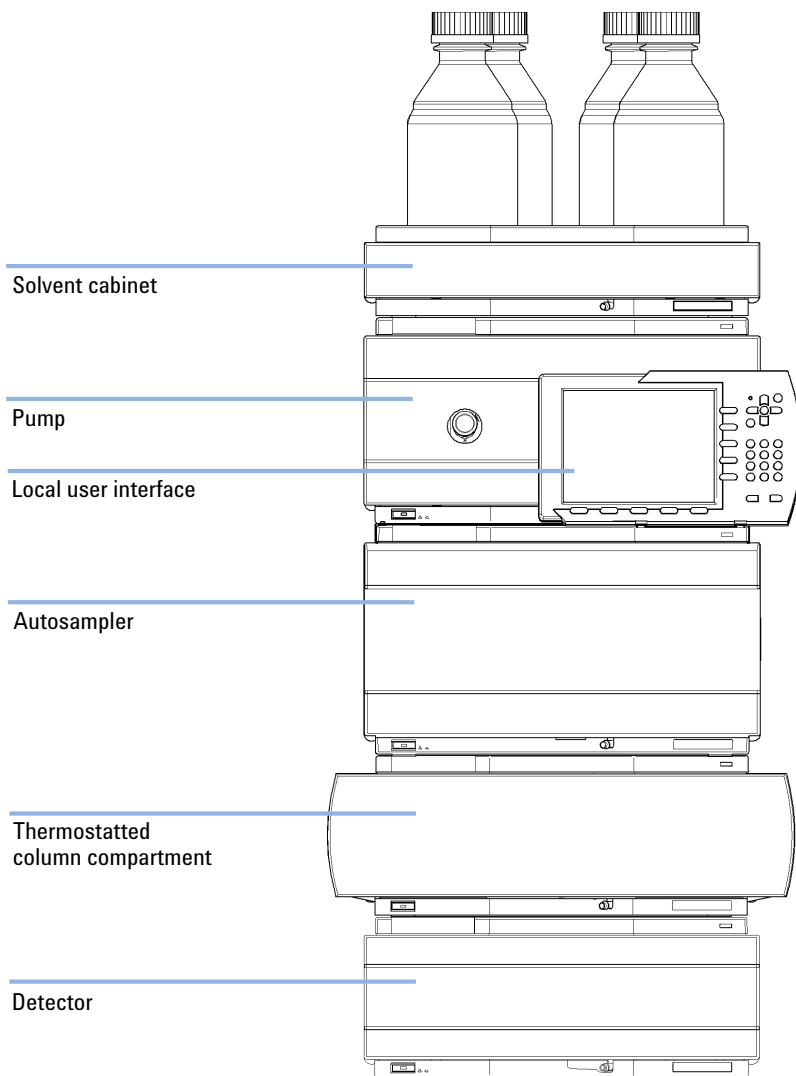
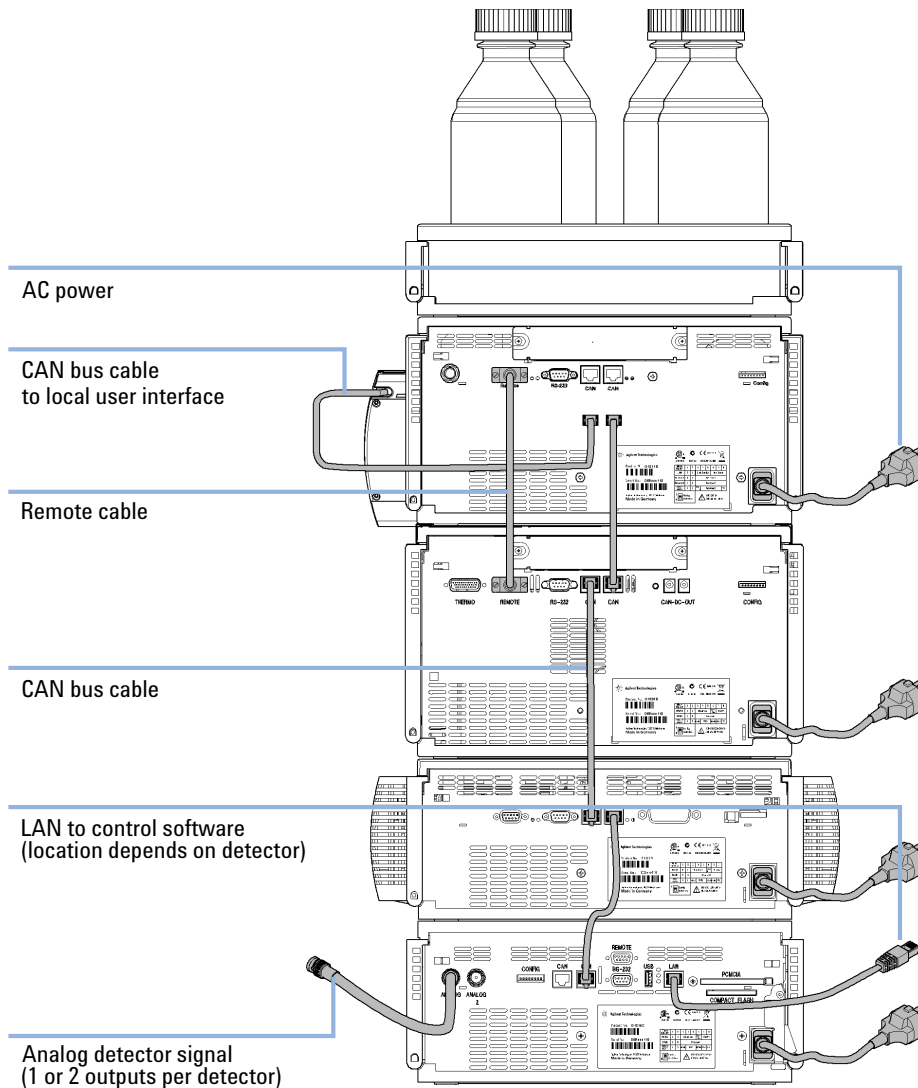

Figure 8 Recommended Stack Configuration (Front View)
Figure 9 Recommended Stack Configuration (Rear View)
Ensure optimum performance by installing the modules of the Agilent 1260 Infinity LC System in the following configuration (see Figure 8 on page 47 and Figure 9 on page 48). This configuration optimizes the flow path for minimum delay volume and minimizes the bench space required.
- 1** Place the individual modules in a stack configuration as shown in Figure 8 on page 47.
- 4** Connect the CAN cable to the CAN connector of the next module, see Figure 9 on page 48.